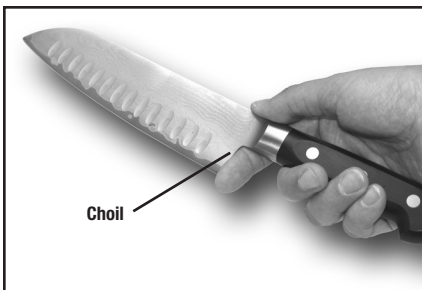

Figure 14. If your blade has a significant choil it may be helpful to place a finger behind it as shown when sharpening.
7. If your knife has a significant choil you may find it helpful to place your index finger within or just behind the choil (see Figure 14) as you insert the blade in the sharpener. (Be careful, the tip of the choil may be sharp!) Your finger can act as a “stop” and prevent you from inserting the blade so far that the choil area will catch on the front stop-bar of the sharpener as you withdraw the blade. A little practice will help you perfect this technique. As you insert the blade let your finger slide down the front of the sharpener.